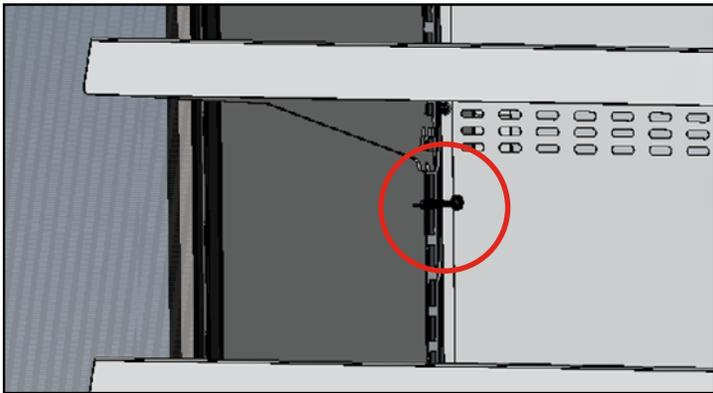

Fig. 1. Locate the LED power cord.
1. Locate the LED power cord protruding from the inner back wall. See fig.1.